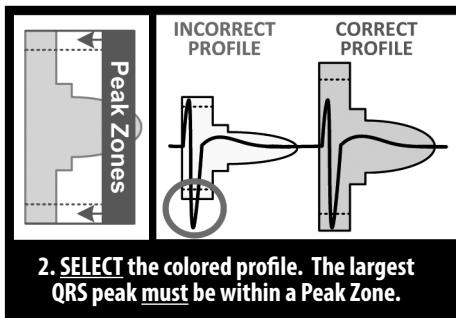

Figure 3: Selecting the colored profile
1. **Select** the colored profile from the Patient Screening Tool that best matches the amplitude of the QRS (*Figure 3*). For biphasic signals, the larger peak should be used to determine the appropriate colored profile. The QRS peak must fall within the window bounded by the dotted line and the peak of the colored profile.